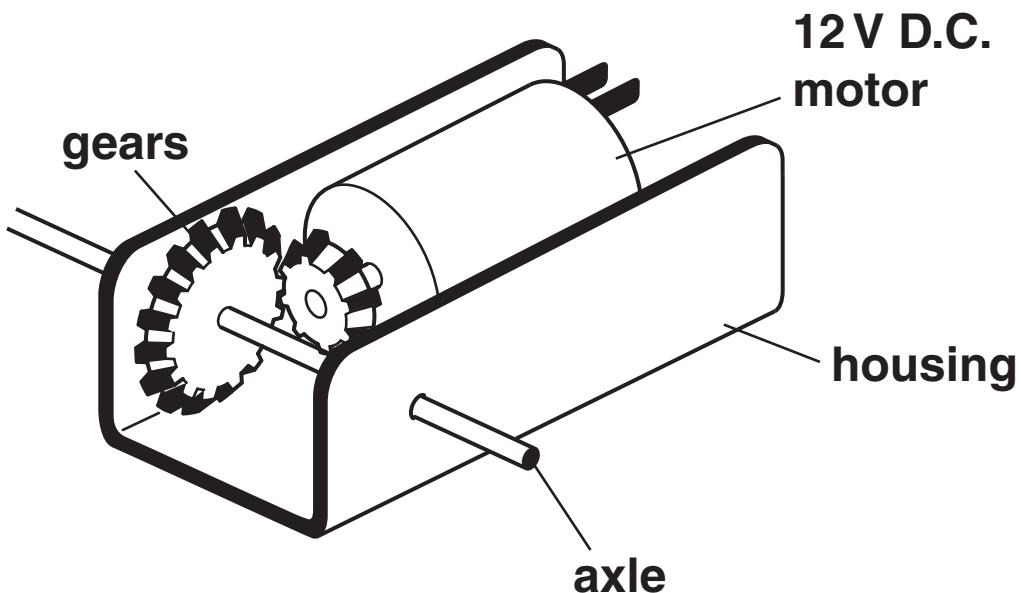

Fig. 1
- (b) Fig. 1 shows details of the drive unit for the train engine.